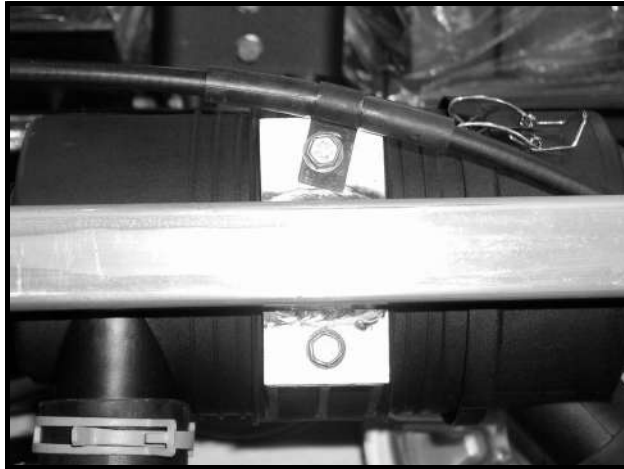

Figure 13a-28 Air Filter Canister
4. Remove the bottom (inlet) hose from the canister (**Figure 13a-31, Page 13a-30**).